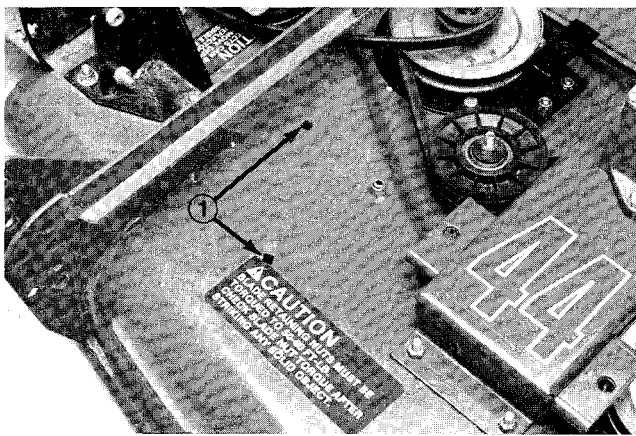

Figure 13
4. With idler assembly pushed into belt, mark slot locations on deck. Drill a 11/32" dia. hole near pulley end of each slot. File holes square to accommodate carriage bolts (Fig. 13).